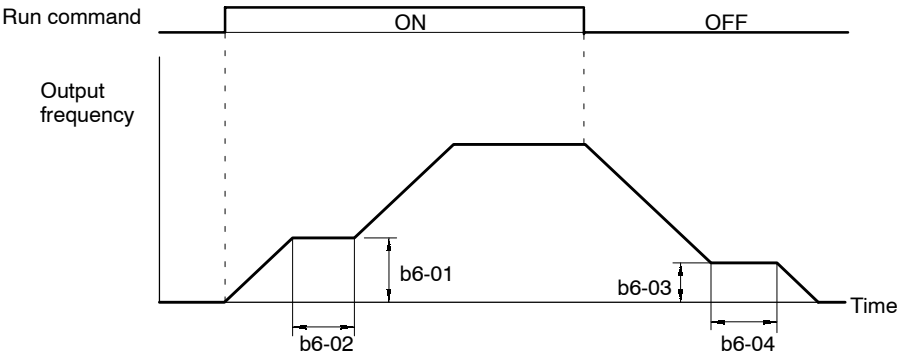

Fig 7.26 Timing Chart for Dwell Functions
- The relation between these constants is shown in Figure 7.26.